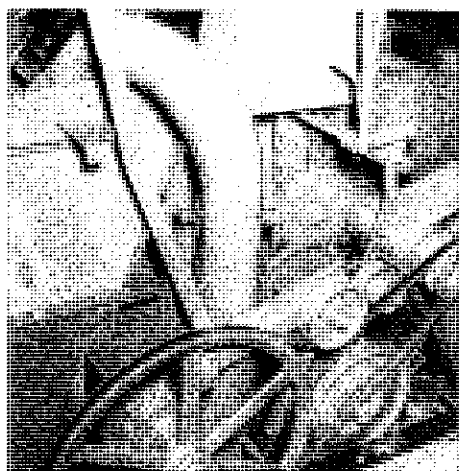

Figure 18 — Sheller Clutch
31. Attach assembled clutch linkage to sheller housing. See Figure 18. Items in clutch linkage include 3, 6, 7, 8, 9, 10, 13, 14, 15, 16, 17 and 18, page 15. Install spring, Item 12, page 15, between end of arm, Item 13, page 15, and lower spring bracket. See Figure 18.